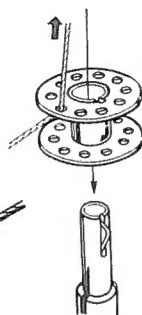

Fig. 2
- 4) Pass the thread between the discs of the thread guide bracket. (Fig. 2)
- 5) Pass the end of the thread through one of the holes in the bobbin from inside to outside. (Fig. 2)